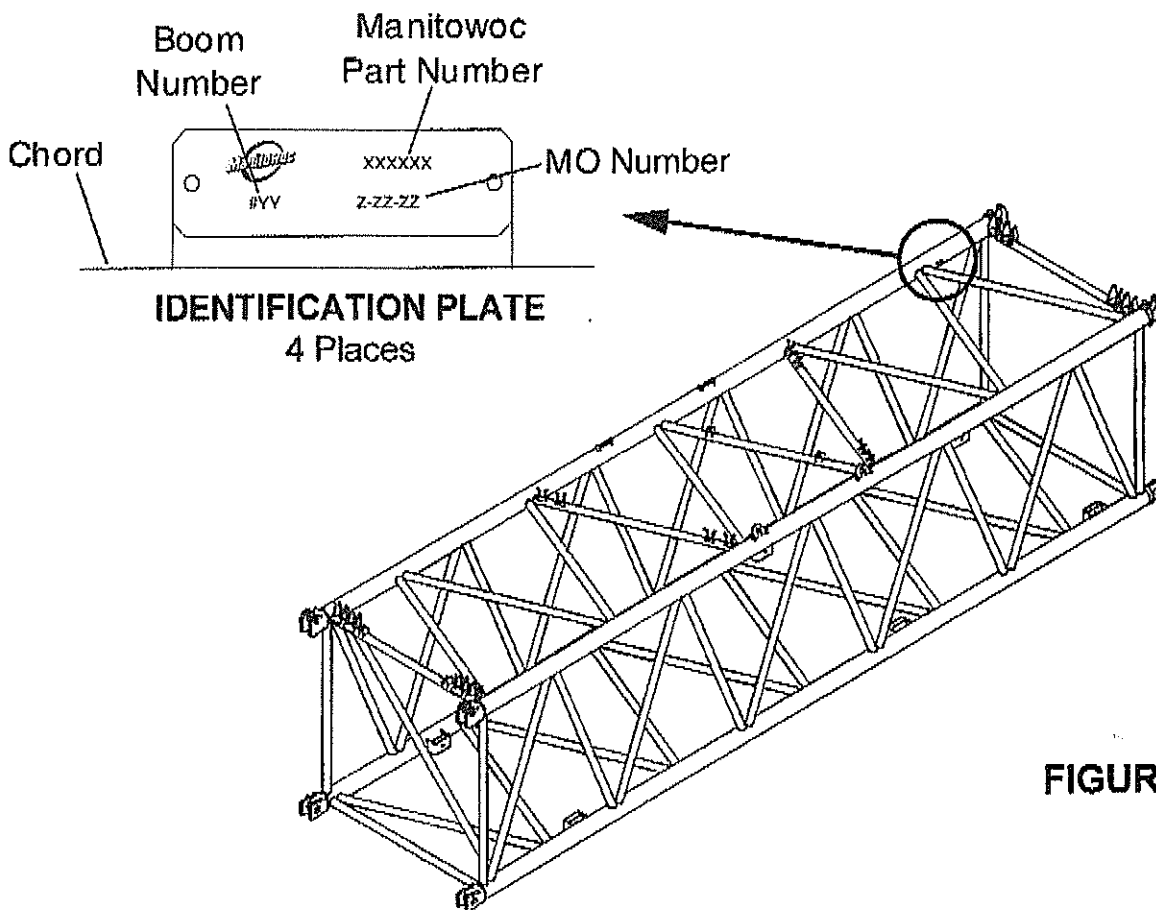

FIGURE 1
The weldments identified in the table below may have chords which do not comply with the specified wall thickness. The weldment part numbers appear on the identification tag on each boom, mast or jib section as shown in Figure 1 below. The corresponding section assembly numbers for these weldments are also provided for reference.
If a weldment part number matches one of those listed above, locate the manufacturing order (MO) number on the identification tag for the weldment as shown in Figure 1 and compare it to the MO numbers listed on the attached Inspection Report. If the MO numbers for any of the weldments match the MO numbers listed in the Inspection Report, ultrasonic test the weldment in accordance with Section A3 below. If you need assistance in locating ultrasonic test equipment or ultrasonic testers, please contact the Crane CARE Lattice Team at **1-888-499-7278** for further instructions.
- b. Prior to inspection procedure verify that the weldment part number and (MO) on the identification plate located as shown on Figure 1 matches the weldment part number and manufacturing order number (MO) listed on the attached Inspection Report attached to the Bulletin.